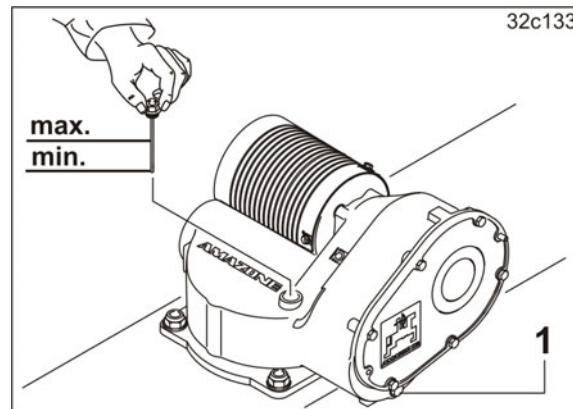

Fig. 179
2. Unscrew the oil drain screw (Fig. 179/1).